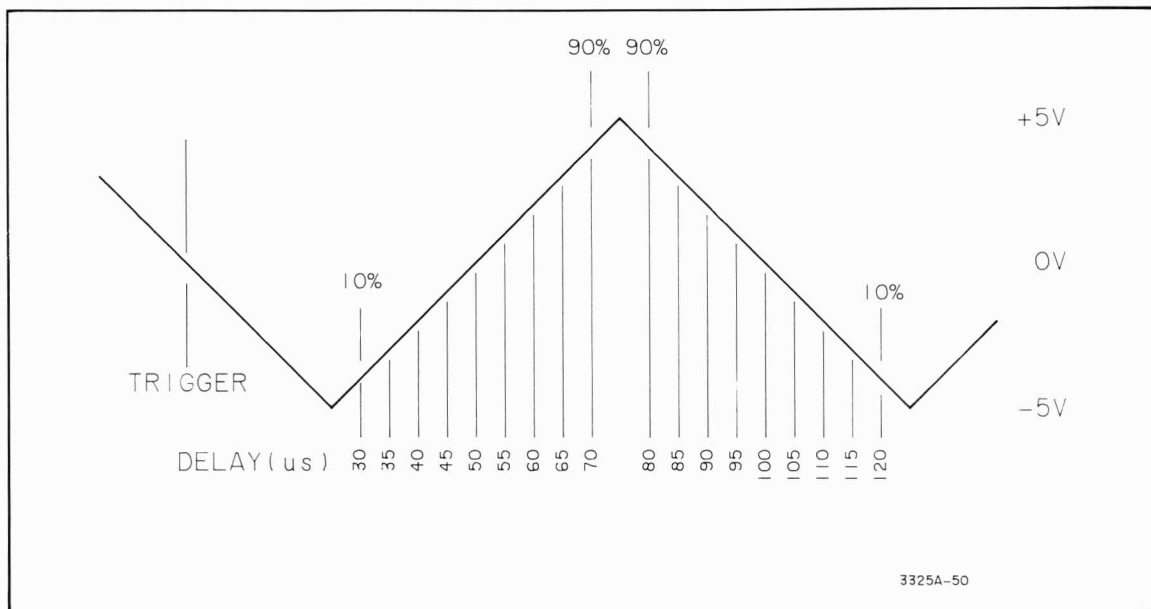

Figure 4-11. Triangle Linearity Test.
a. Connect the 3325A signal output through the 50-ohm feedthru termination to the dc digital voltmeter input (see Figure 4-11(A)).
d. Set the digital voltmeter delay to .00003 (seconds). Record the digital voltmeter reading on the Performance Test Record under "Positive Slope Measurement, (10%) y_1 ". This is the 10% point on the positive slope of the triangle. See Figure 4-11.